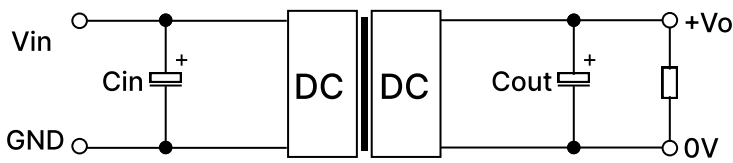

Fig. 2
Note: ① By measuring method is used for Ripple and Noise test, please refer to Fig. 2. for recommended circuit.
All the DC-DC converters of this series are tested before delivery using the recommended circuit shown in Fig. 2. Input and/or output ripple can be further reduced by appropriately increasing the input & output capacitor values C_{in} and C_{out} and/or by selecting capacitors with a low ESR (equivalent series resistance). Also make sure that the capacitance is not exceeding the specified max. capacitive load value of the product.